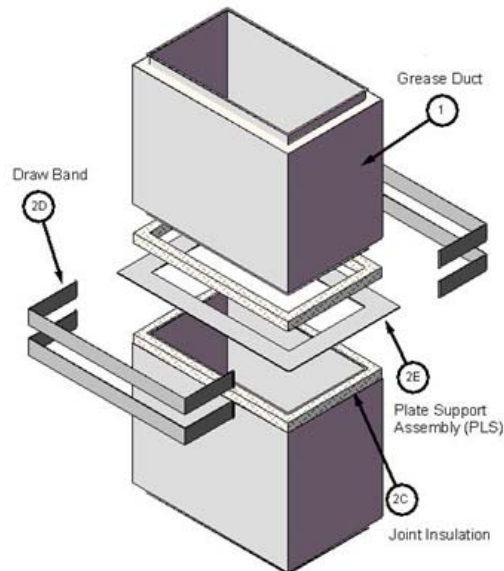

Figure 3. Plate Support Assembly (PLS)
- B. VERTICAL SUPPORTS – Reference Figures 3, 4, and 5. Where the Pre-Fabricated Grease Duct (Item 1) is installed vertically, use the Plate Support Assembly (PLS), Flange Support Assembly (FSA), and/or Wall Brackets (WBR) as specified below.
- ii. PLATE SUPPORT ASSEMBLY (PLS) – Secure the Pre-Fabricated Grease Duct (Item 1) sections joined with the PLS (reference Figure 3) to the supporting construction (supplied by others). Ensure the PLS is supported continuously on all sides. Fasten the PLS to the supporting construction at min. on each of the four corners using appropriate type fasteners for the intended construction and as specified by the responsible design professional. Ensure that the supports are spaced such as not to exceed a max. load of 2,400 lb.